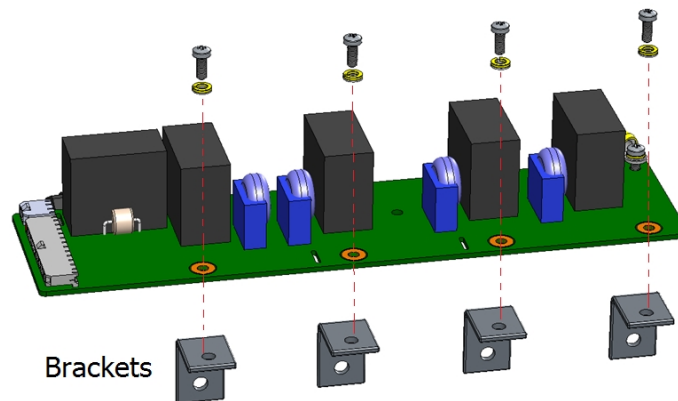

Figure 5: AC SPD Board Brackets Removal
1. Release the screws connecting the 4 brackets and transfer the brackets to the replacement AC SPD board (see *Figure 5*). Fasten the screws with a torque of 2.6 N*m (1.91 lb*ft).